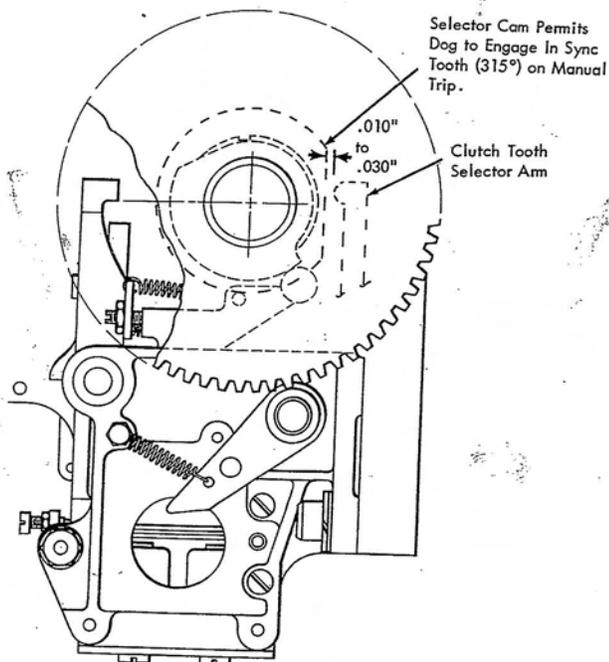

Figure 3-20. Punch Clutch Position
1. Set clutch so latch arm is on horizontal centerline of picker camshaft within .005" (Figure 3-20).
9. This adjustment is only for machines with a clutch tooth selector arm (Figure 3-20). With the clutch tripped in the sync tooth and the clutch trip lever held down, adjust the clutch tooth selector arm for .010"-.030" clearance to the center of the low dwell of the selector cam. Make sure that clutch trips. Re-adjust within tolerance if necessary.